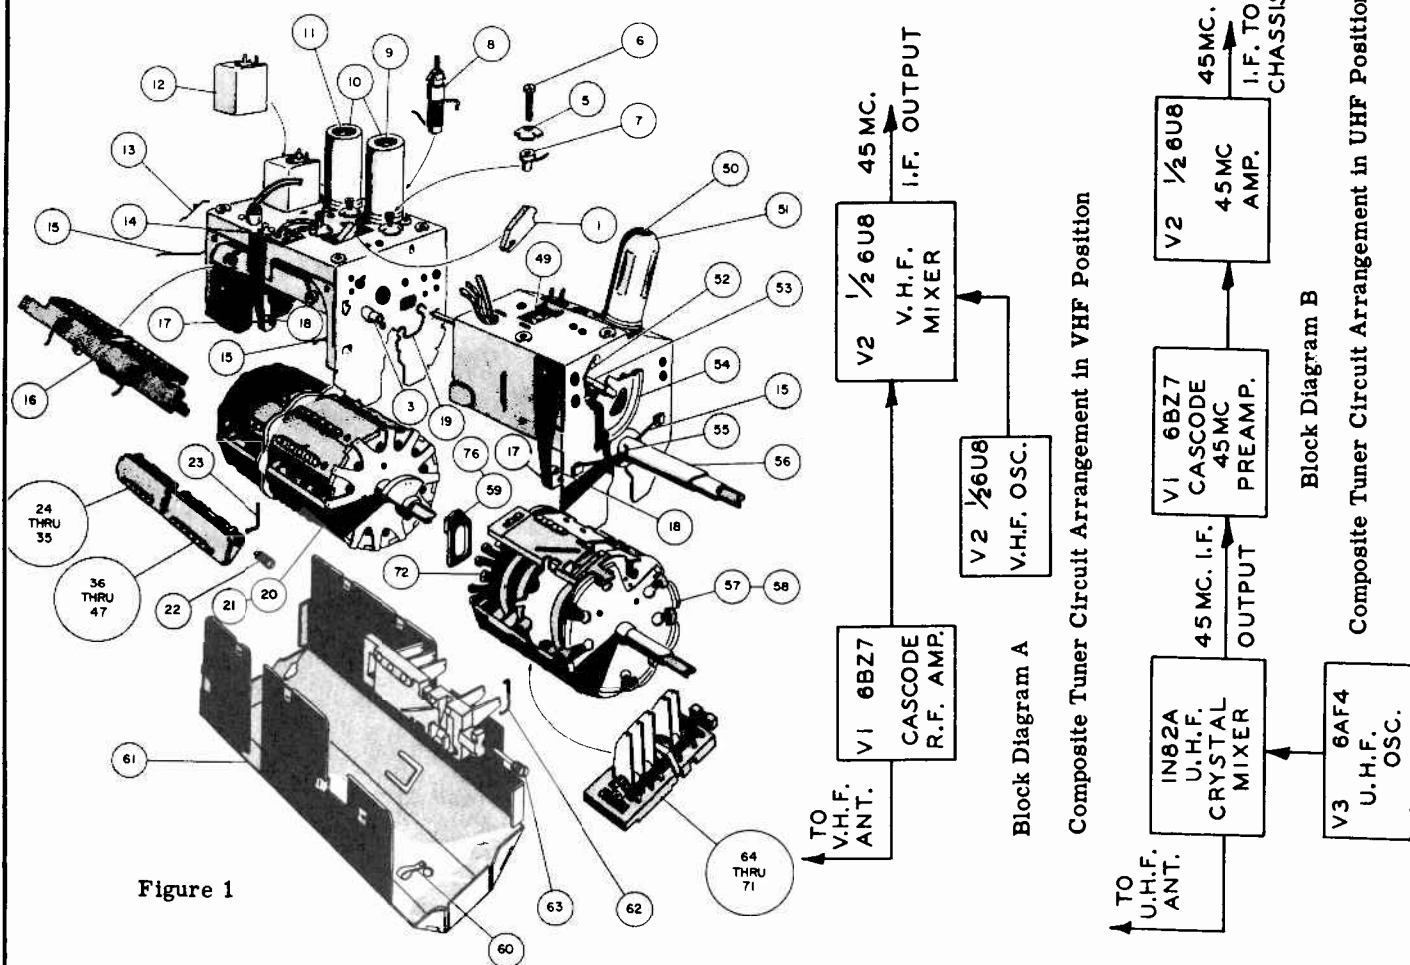

Figure 1
Figure 1 shows an exploded view of the composite Standard Coil tuner. It can readily be seen that separate UHF and VHF assemblies have been combined mechanically and electrically to form the complete unit. Three concentric shafts are used to drive all of the UHF/VHF switching and tuning elements. Of these, the inside shaft rotates a 12 position VHF turret assembly and, ganged to this same shaft, three cam shape dielectric sections that tune the UHF decade coils through the UHF digit positions. The center shaft rotates the UHF decade turret and with an attached double action cam tilts the 45 MC I.F. rocker bar into position for UHF operation. The third or outside shaft drives the ganged VHF and UHF fine tuning capacitors.
The remainder of the antenna circuit consists of a portion of the UHF decade coil assembly (D on the schematic diagram) plus trimmers C33 and C34, choke L6 and capacitor C164. Tuning coils L22 and L23 are connected to capacitor blades which are imbedded in the coil board assembly proper (see item 64 to 71, figure 1). UHF channels within the range of a particular decade coil are tuned by movement of cam shaped dielectric sections which mechanically fit between these capacitor blades. To cover the entire UHF band eight separate decade coil board assemblies are switched in and out of the circuit by rotation of the UHF turret assembly (item 57, 58, shown in figure 1).